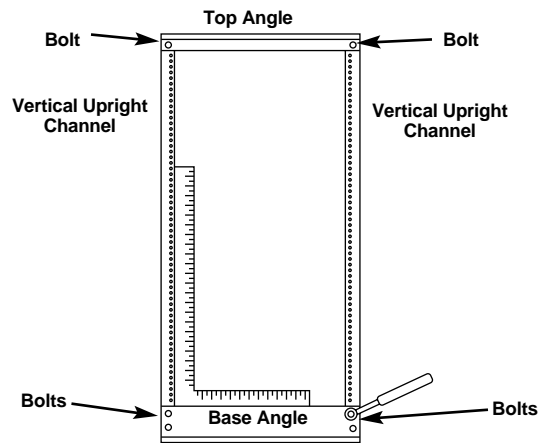

Figure 1-3. Step 3: Final Tightening.
STEP 3: Final tightening. (See **Figure 1-3**.)